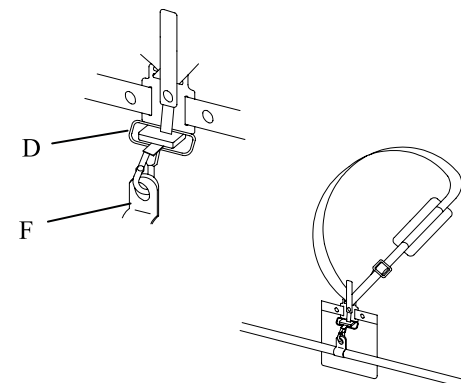

Fig.7-3
2. Before starting to work, attach the side hook (D) to the suspension point (F) on the shaft tube. (Fig.7-3)